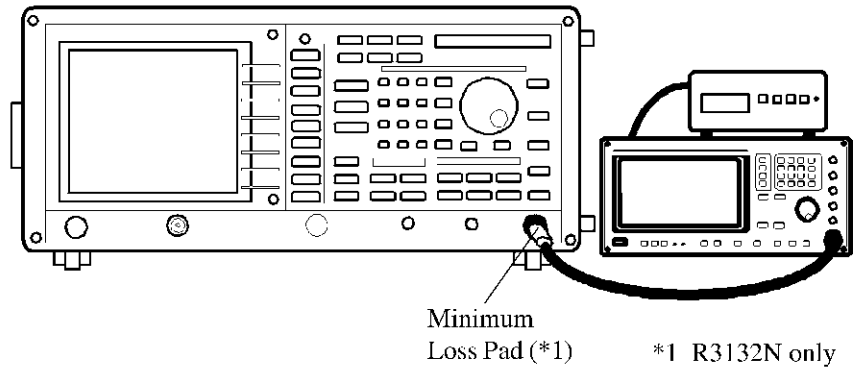

Figure 5-14 Setup of Accuracy of Frequency Readout and Frequency Counter Test
1. Connect the signal generator and the frequency standard as shown Figure 5-14.